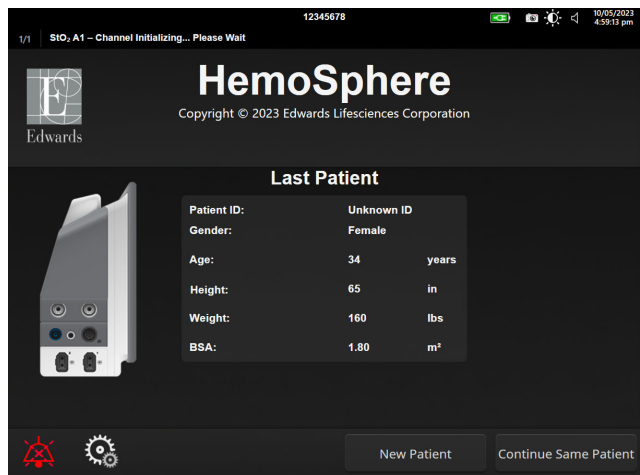

Figure 6-1: New or continuing patient screen
After the system is turned on, the user has the option to either continue monitoring the last patient or to start monitoring a new patient. See Figure 6-1 on page 79.
1. After turning on the monitor, the new or continuing patient screen appears (Figure 6-1 on page 79). Touch **New Patient** and continue to step 6.